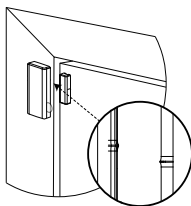

Figure 3: Device and magnet position on door and door frame
- 2. Place the device on the frame of a window or door and place the magnet on the moving surface of the door or window itself, directed according to the location marks. See Figure 3.
3. Screw the magnet base on to the door, aligning it with the line on the device. See Figure 3.